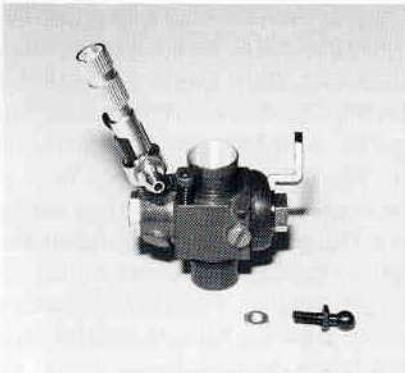

Fig. 252
□ **Figs. 252 & 253** In bag #7-15 of your truck kit you will find one 2-56 thread steel ball end and one 2-56 plain nut. The hole in the throttle pivot arm may be too small for the 2-56 threaded ball end so we will need to drill it out. Use a #43 (.0890") drill bit, or you can use a 3/32" drill bit if you are extremely careful. **Warning: the throttle pivot arms are very small and can be easily damaged. Use extreme care when drilling the hole.**